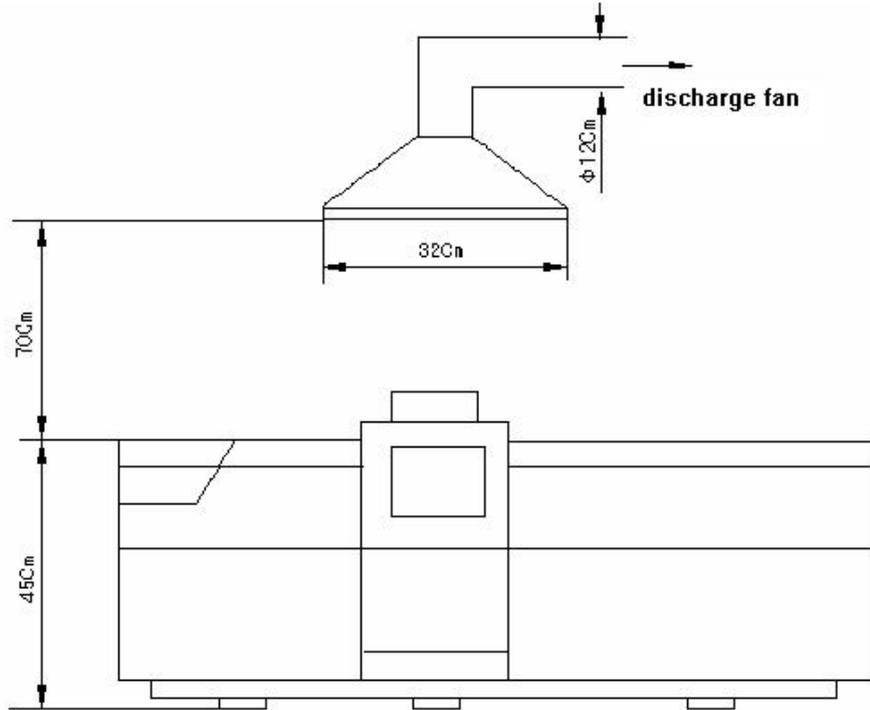

Figure 2-2 Schematic diagram of installing the discharge fan
- b. The ventilating port should be mounted above the atomizer of the instrument. For the dimensions and the installation of the ventilating facilities, please refer to Figure 2-2.